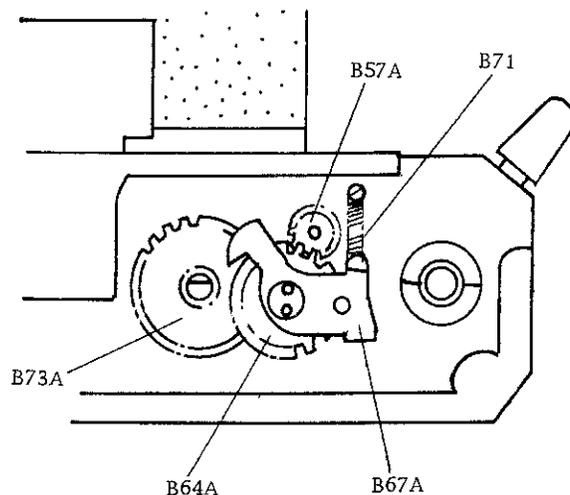

Fig. 16
2.1 When the light shielding curtain is set to close, the system does not click. Check the system for faulty stop lever (B67A) operation, unhooked and/or weakened spring (B71). When the parts are defective, repair or replace. (Fig. 16)